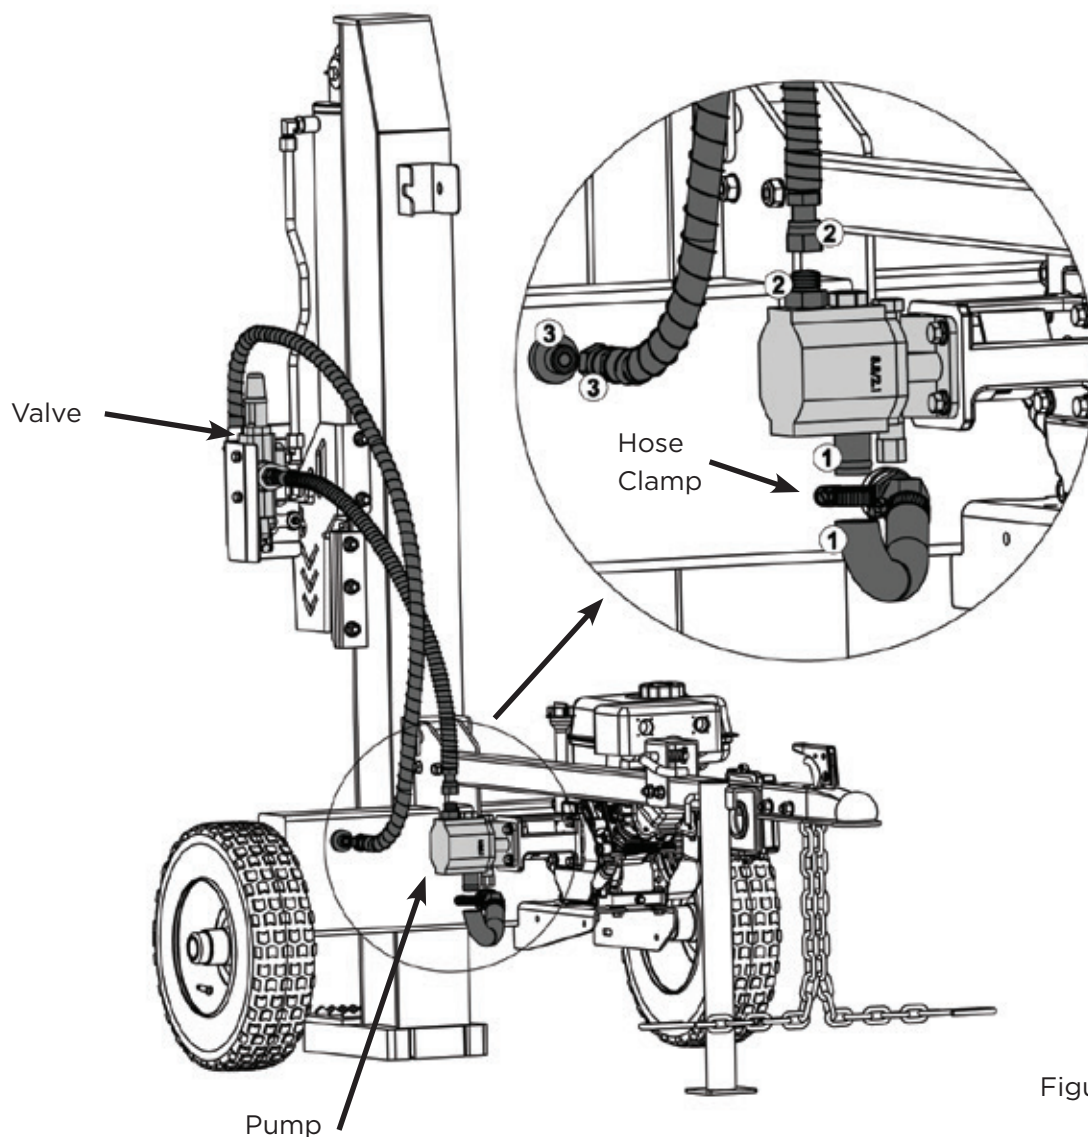

Figure 8
**Step 5:** Connect hydraulic hoses. (See Fig. 8).